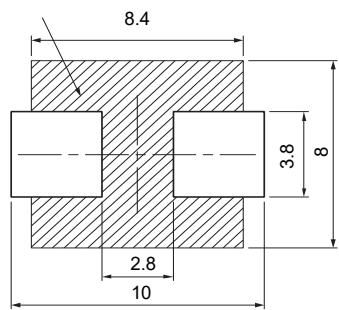

Fig. 1
- Do not form a pattern, via, etc., on the counter to the bottom of the inductor. (MC series/\* Fig.1, Dust type/\*Fig.2)